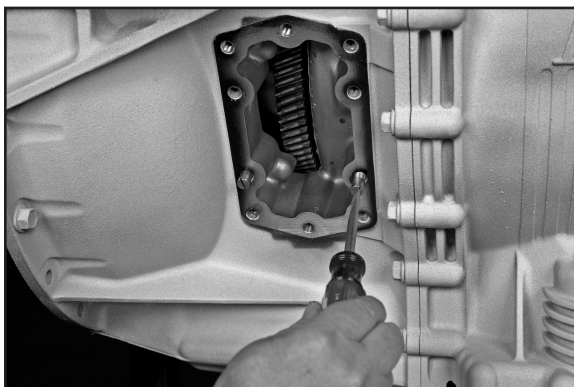

Figure 15
4. Using a screwdriver, install the guide pins until they bottom out (**Fig. 15**).